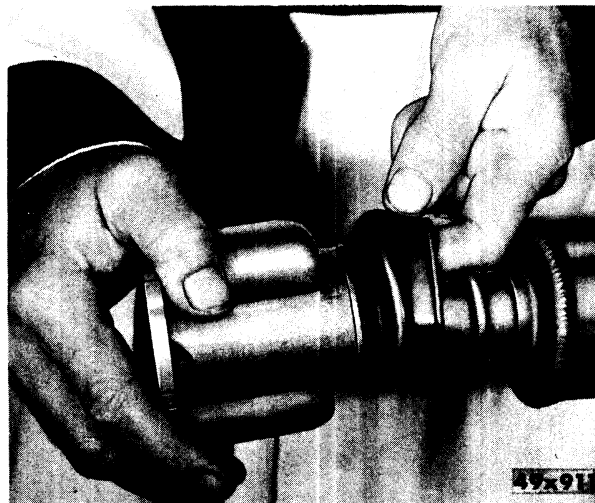

Fig. 6—Working Dust Cover Through Body
- (6) With the body in position so the pin can enter the ball channels, pull the body sharply over the pin, thereby forcing the dust cover into the body.
- (7) With one hand, grip the end of the dust cover, protruding through the back end of body. With the other hand, pump the body back and forth, as shown in Figure 6, until the entire dust cover has passed through the body.
- (8) During the operation the cone may have reversed itself inside the dust cover. Pull it out to its normal position.
- (9) Slide the dust cover in the ball head groove and over the neck of the body, then secure with clamps provided.
- (10) Insert 2½ ounces of heavy fiber, universal joint grease in the joint and install the cover.
- (11) Install shaft, using new lockwashers. Be sure to double check the flange bolts for tightness, to insure against grease leakage. Recheck after 1,000 miles of operation.